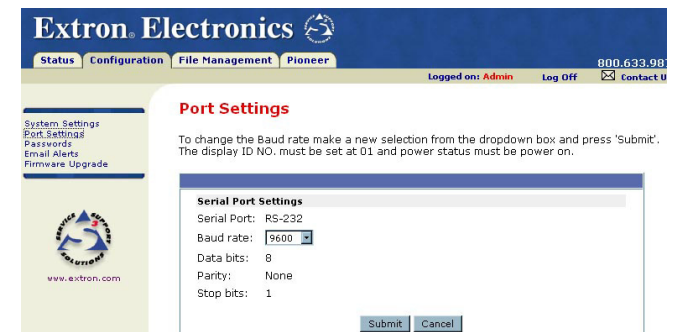

Figure 4-3 — web server Port Settings screen
1. Click Port Settings on the menu (on the left side of the window) and the Port Settings screen (figure 4-3) is displayed.